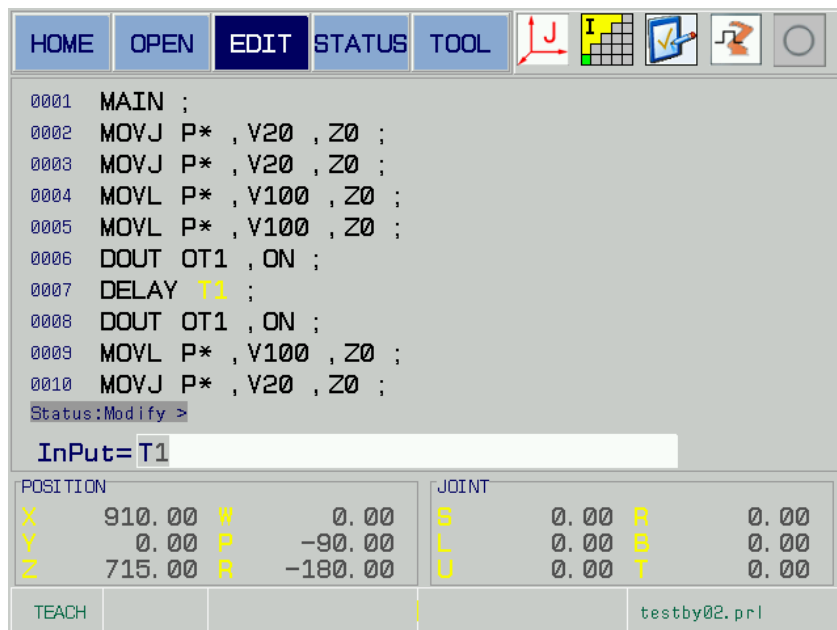

Fig. 5-30
3. The edit mode is the Modify mode after adding the DELAY command; move the cursor to the time setting T by right direction button, then input the 1 second, and then complete the time setting by [INPUT]; refer to Fig. 5-30.